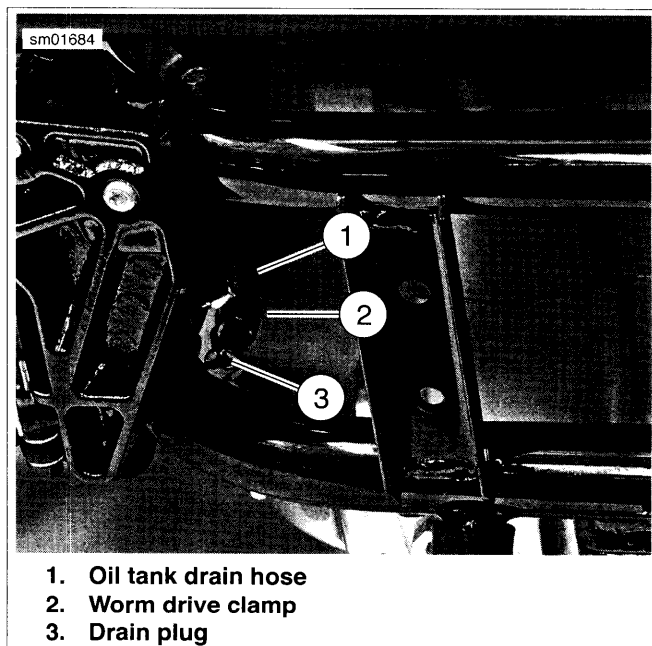

Figure 1-4. Oil Tank Drain Hose (typical; XL model shown)
3. See Figure 1-4. Place a suitable container directly under the drain hose (1) at the bottom rear of the engine crankcase. The container must be able to hold approximately 3.0 quarts (2.8 liters).
4. Loosen worm drive clamp (2) and pull drain plug (3) from end of drain hose. Completely drain engine oil from oil tank. It is not necessary to drain engine crankcase.